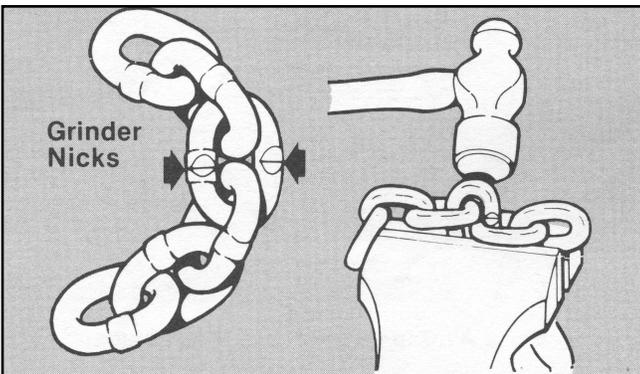

Figure 4. Cutting Chain by Nicking.
2. Use a grinder and nick the link on both sides (Figure 4). Then secure the link in a vise and break off with a hammer.